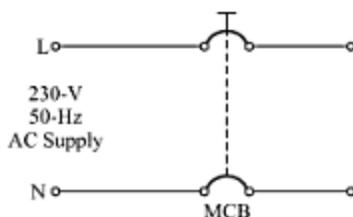

Fig. 1.9 Single phase ac supply.
- (i) **230-V, 50-Hz, Single-Phase Supply** It has two wires—phase/line wire and neutral wire (Fig. 1.9).